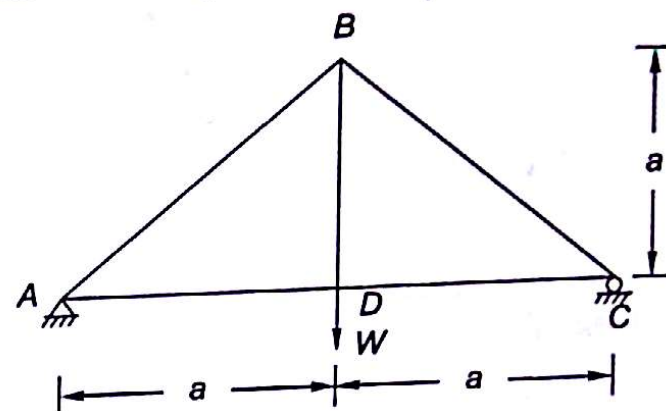

Fig. 4.33
- 4.4 A truss $ABCD$ is shown in Fig. 4.33. It carries a load W at joint D . Area of cross-section of all the members is equal to 100 mm^2 . If the maximum stress in any member is not to exceed 100 MPa , what is the maximum magnitude of W ?